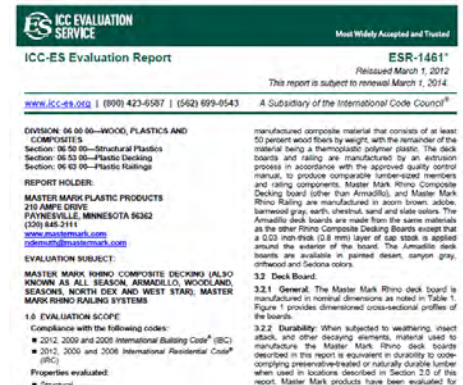

FIGURE 28: EVALUATION REPORT
**Guard systems.** Guard systems with a valid evaluation report from an accredited listing agency are permitted. See FIGURE 28 for a sample report. Pre-fabricated systems without an evaluation report will require a plan review during the permit application process.